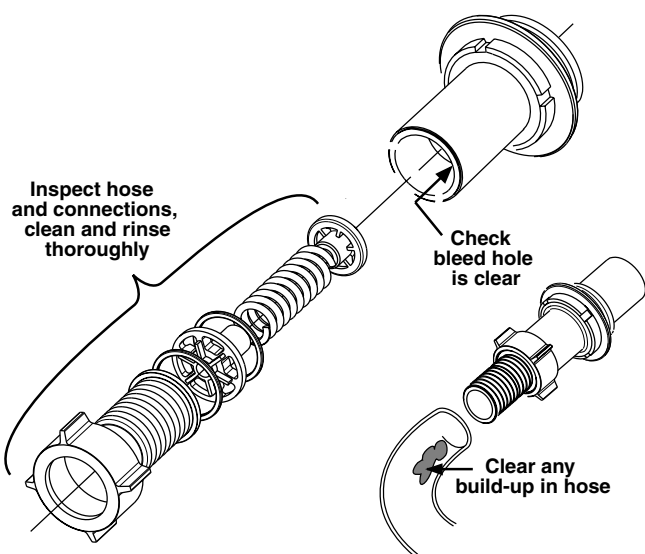

Fig 51
- 5 Inspect pressure relief valve(Fig 51)(mounted on the side of the Select Function Valve assembly). Ensure it is thoroughly cleaned, rinsed and free of residues. Ensure the bleed hole is clear of debris and the pressure relief valve is bypassing fluid back into the main tank during normal spray operations.